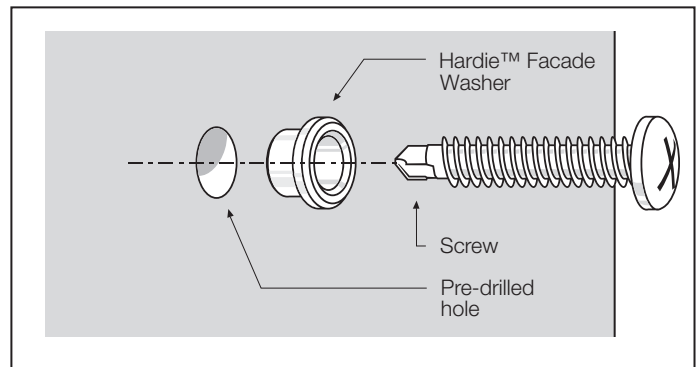

**FIGURE 15 COUNTERSUNK FASTENER DETAIL**
2. Drill clearance holes into ExoTec™ Facade Panel, for No.10 gauge screws using a 6mm countersunk masonry drill, which provides a 6.2 to 6.3mm diameter hole, see Figure 10. Countersink hole to a depth of 2.5mm to 3mm. This is measured from the top of the screw to the top of the sheet, see Figure 15.